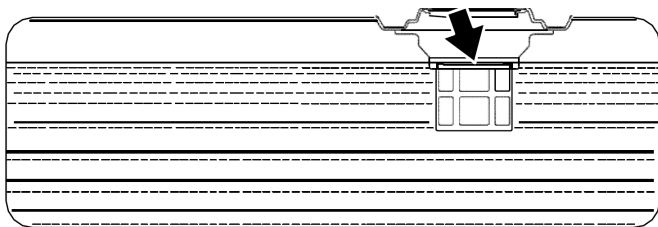

Figure 8 - Maximum Gasoline Fill Level
6. Slowly add gasoline into the fuel tank. Be very careful not to overfill the tank. The gasoline level should NOT be higher than the filler neck (see Figure 8).